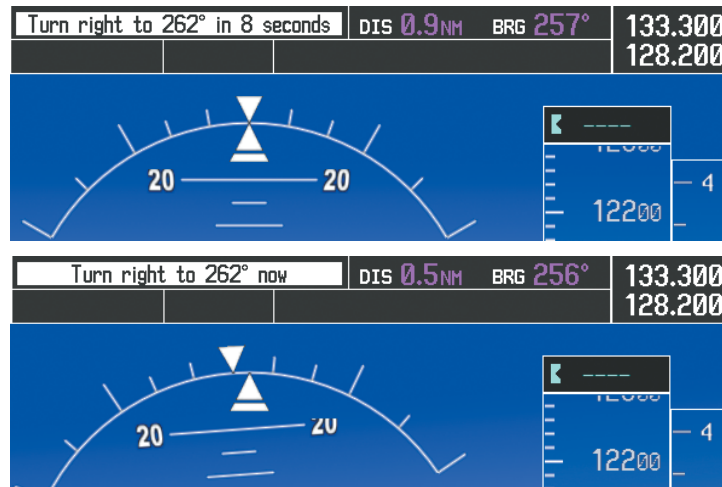

Figure 5-124 Turn to Intercept V244
- 8) At SLN, Victor Airway 244 (V244) is intercepted. Turn prompts are displayed in the PFD Navigation Status Box as seen in Figure 5-124.